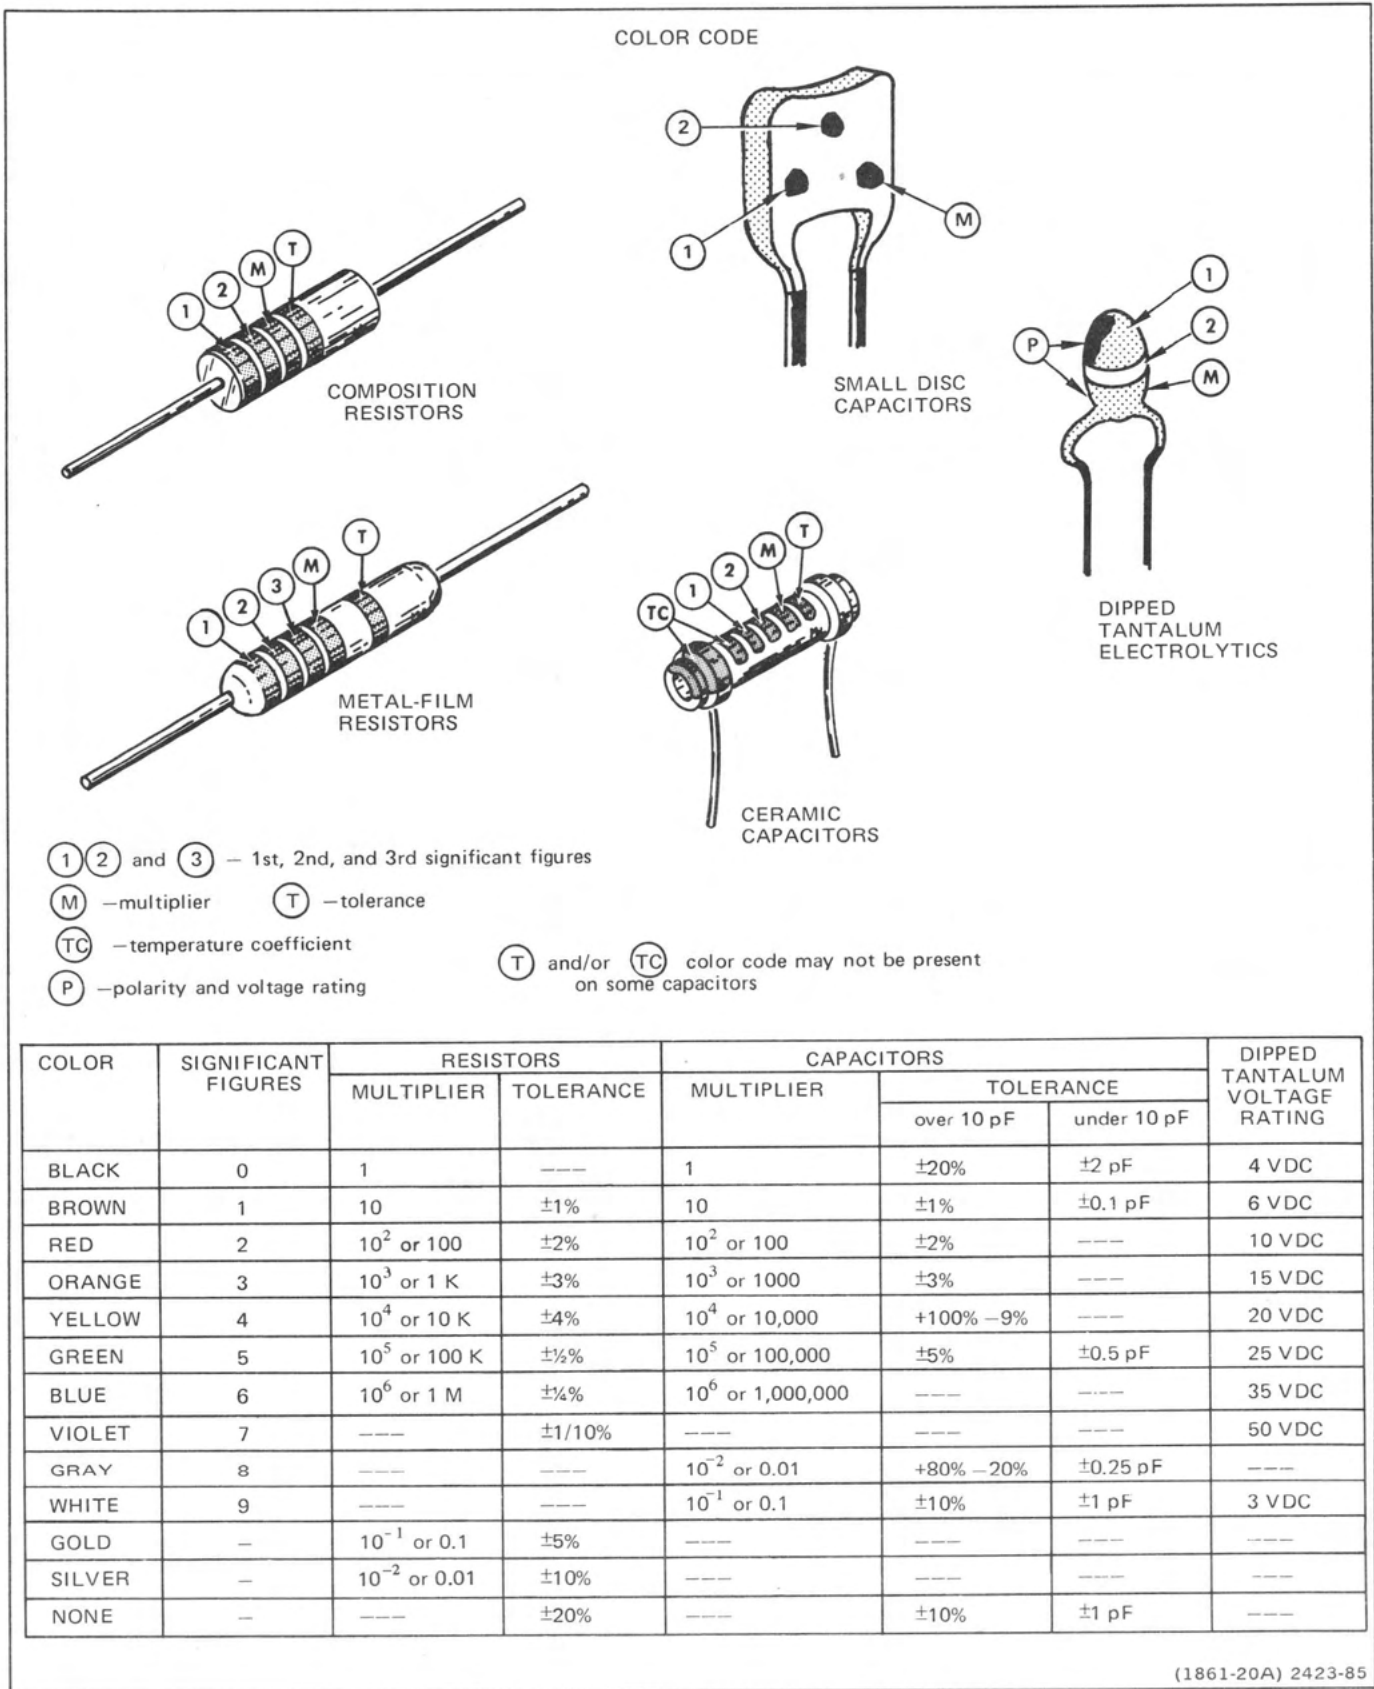

Fig. 5-6. Component value identification.
8. CHECK INDIVIDUAL COMPONENTS. The following procedures describe methods of checking individual components. Two-lead components that are soldered in place are best checked by first disconnecting one end. This isolates the measurement from the effects of surrounding circuitry. See Fig. 5-6 for component value identification.